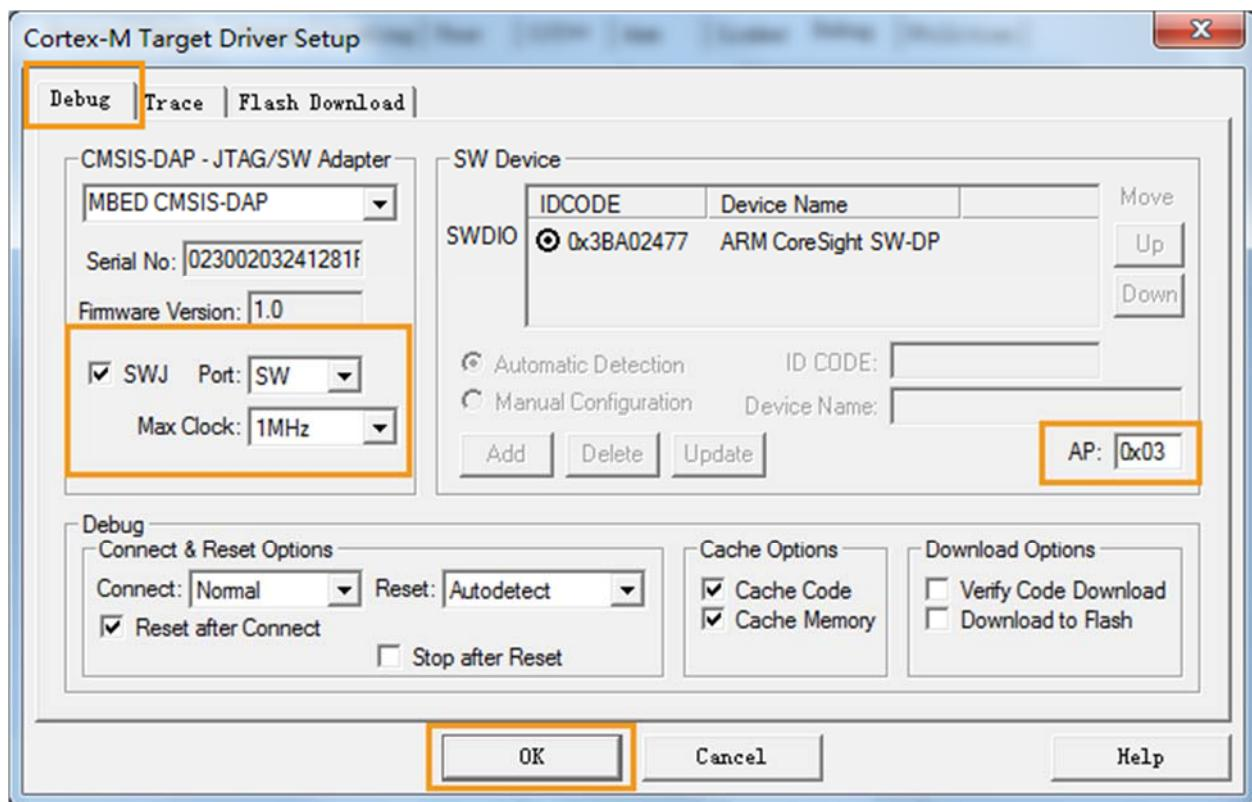

Figure 51. Setting the debug parameters on LinkIt 2523 HDK
- 8) If debugging on LinkIt 2523 HDK, set **AP** as 0x03, as shown in Figure 51.